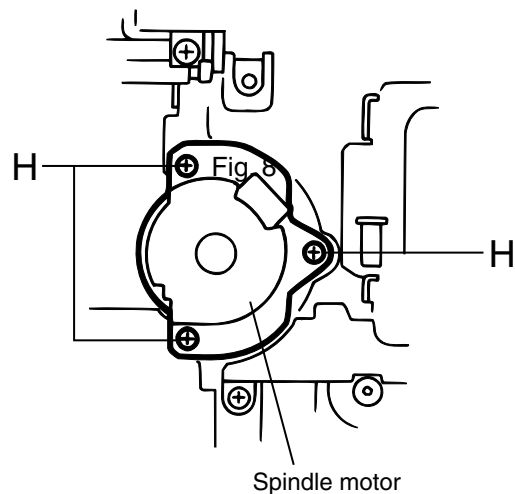

Fig. 14
■ **Removing the Spindle motor (See Fig.14)**